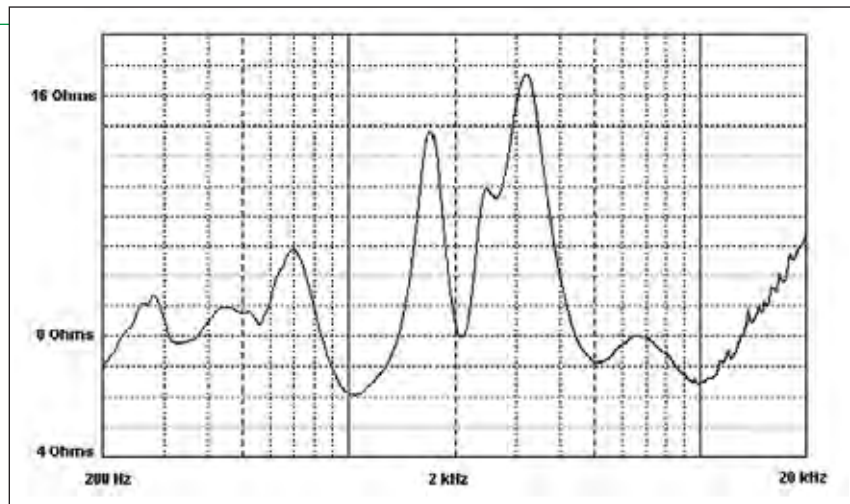
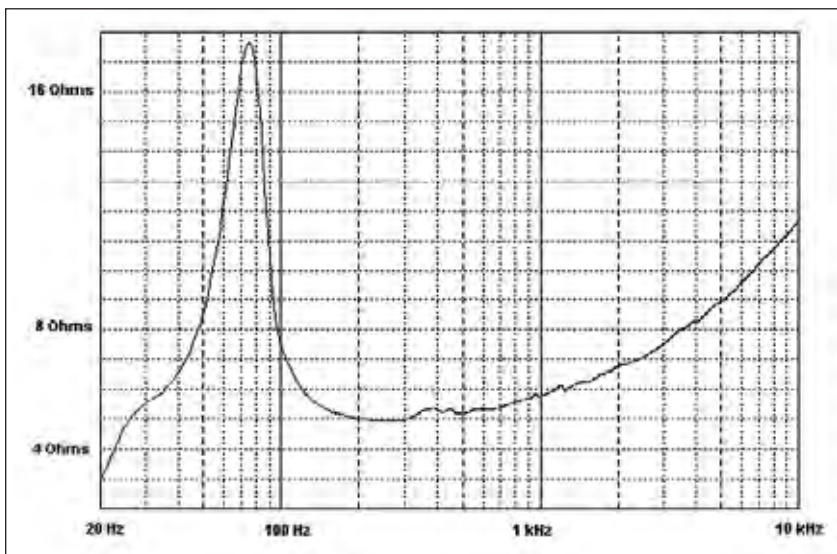

Figure 3: While more complex than the loudspeaker in Figure 1, this covers a similar impedance range, with a maximum around 16 ohms.
Figure 2: This loudspeaker exhibits a maximum impedance greater than 17 ohms.
**Figure 2** and **Figure 3** show two representative loudspeaker impedance plots, pulled from the Internet. These are not offered as either worst case or typical.
From the impedance plot in **Figure 2**, if we ignore the extreme low frequency, this loudspeaker exhibits a maximum impedance greater than 17 ohms, with a significant region of the upper bass down around five ohms. Meanwhile, **Figure 3**, while more com-